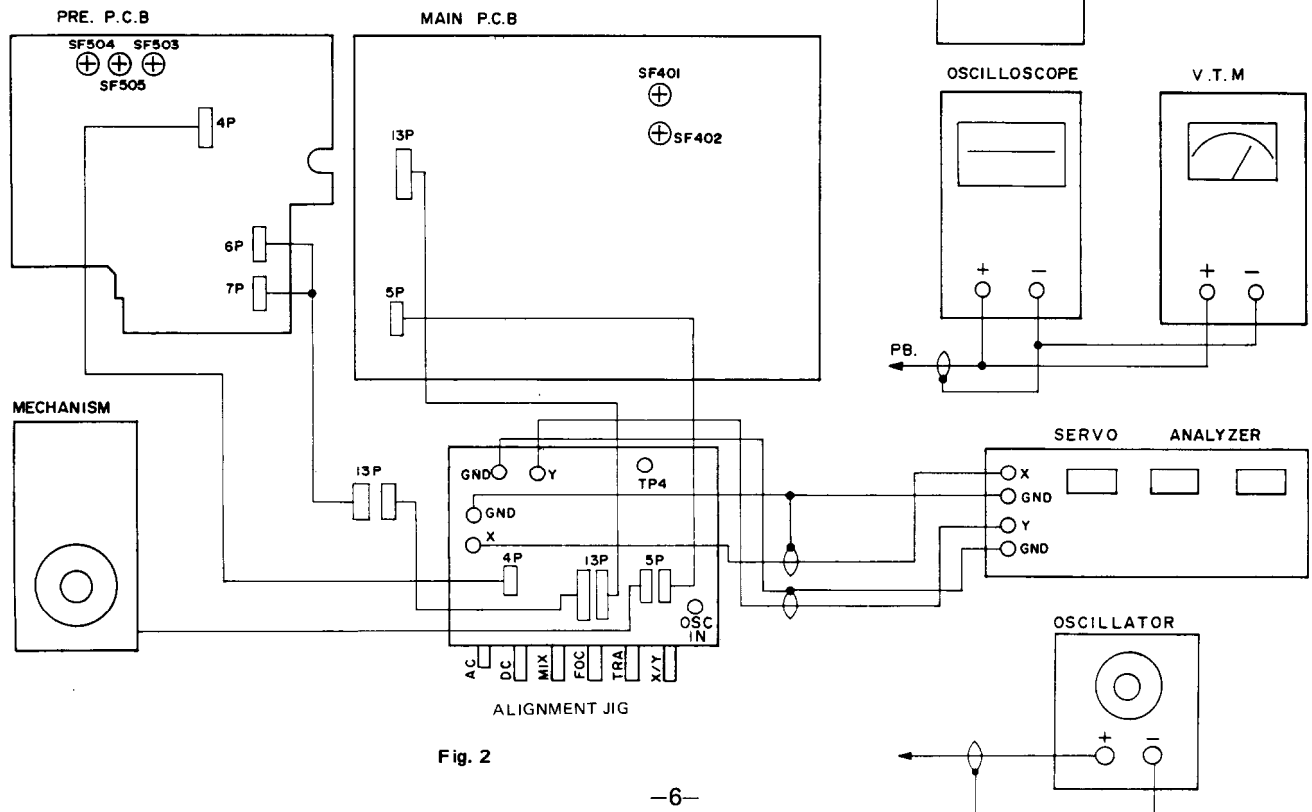

Fig. 2
- 3) Connect the alignment jig as shown fig 2. and set the FOC switch of alignment jig to on.